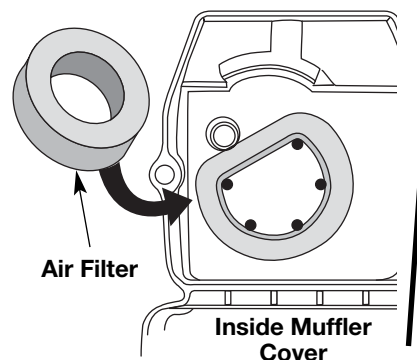

Fig. 33
2. Turn cover over and look inside to locate the air filter. Remove the air filter from inside the air filter/muffler cover (Fig. 33).
- Replace the air filter inside the air filter/muffler cover (Fig. 33).